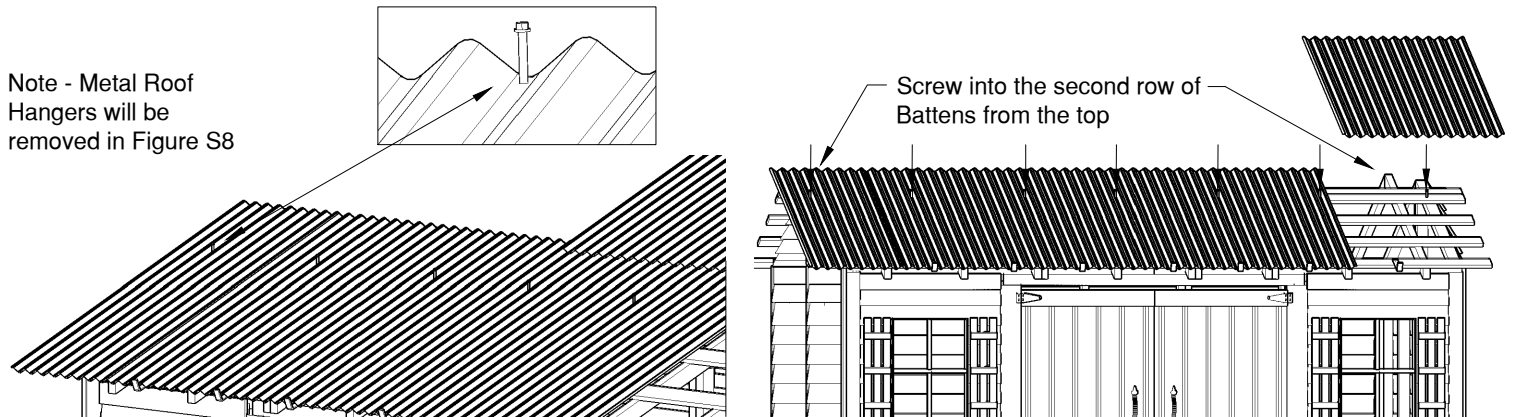

FIGURE S7
- Using the 1 1/2" Metal Screws, secure Metal Roof Panels to the second row of battens from the top, so the Metal Roof Hangers can be removed. The Metal Screws are pointed. Screw into the center of the battens at the valley of the Roof Panels. Figure S7